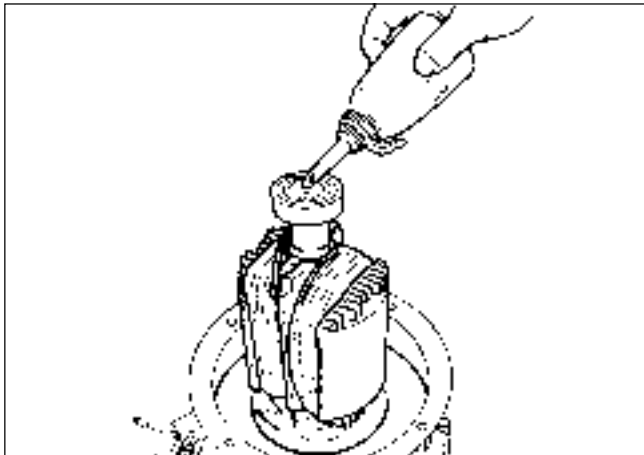

Fig. 10-17
<p>(3) Use a bolt and oil as a tool for pulling out rotor in the following procedures :</p> <ol style="list-style-type: none"> 1. Pour engine oil into the center hole of rotor shaft. Fill with oil to the shaft end. (See Fig. 10-17.) 2. Prepare a bolt with the following thread size : RGV2800 . . . M10 x P 1.5 RGV4100, 6100 . . . M12 x P 1.5 3. Apply a few turns of seal tape around the tip of the bolt. (See Fig. 10-18.)